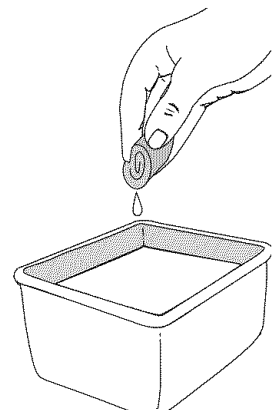

Fig. 18
3. Wash the filter in detergent and water (Fig. 18). Rinse the filter thoroughly. Squeeze out excess water. Allow it to dry completely.